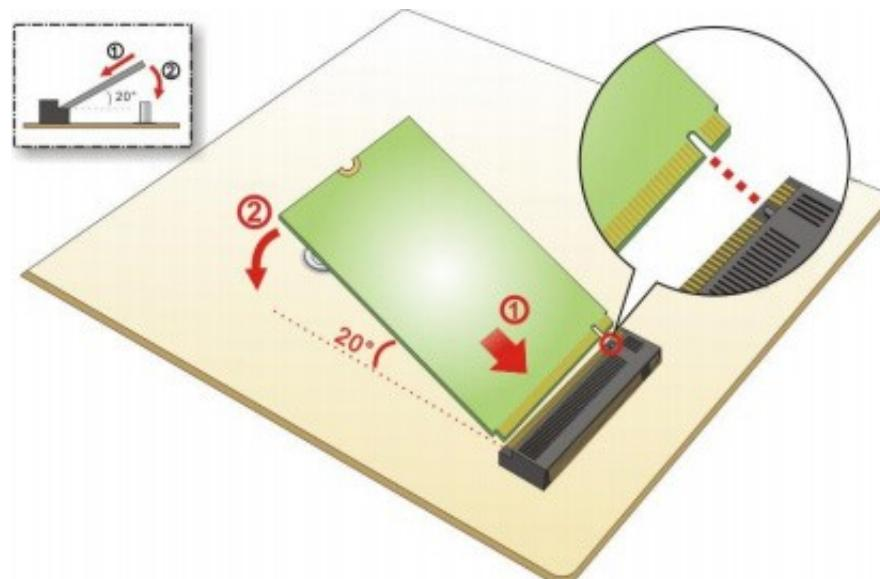

Figure 4-9: Inserting the M.2 Module into the Slot at an Angle
- Step 3:** Line up the notch on the module with the notch on the slot. Slide the M.2 module into the socket at an angle of about 20° (**Figure 4-9**).
- Step 2:** Line up the notch on the M.2 module with the notch on the slot. Slide the M.2 module into the socket at an angle of about 20°. (See **Figure 4-9**)